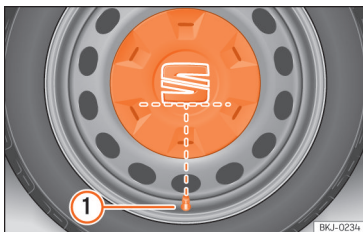

Fig. 183 Correct positioning of the central wheel trim for steel rims.
- Fit the central wheel trim onto the rim. The bottom of the "S" of the SEAT badge should align with the inflation valve >>> Fig. 183 ①.